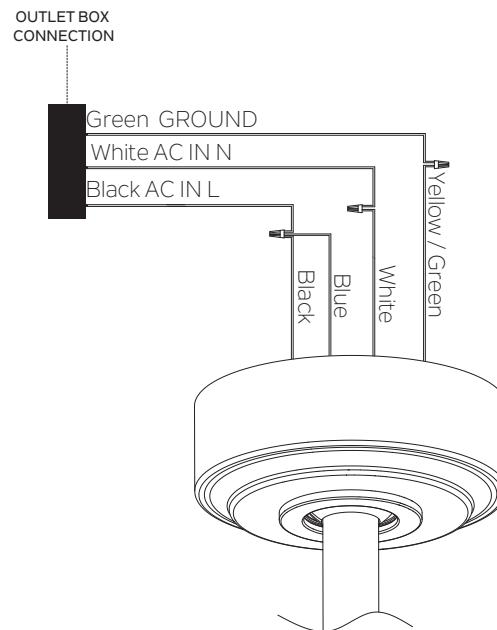

Fig. 13
Step 1. Connect the fan supply (black) wire and light supply (blue) wire to the household supply (black) wire as shown in **Figure 13**.